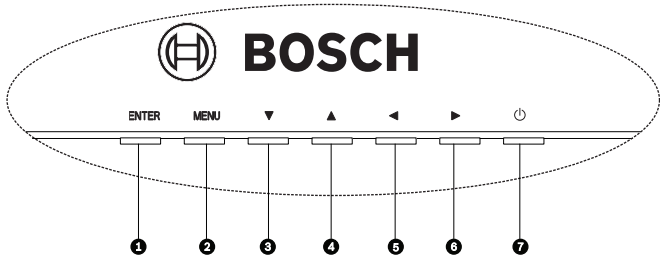

Figure 6.1 UML-262-90 Control Panel Buttons
2. Press the Power button to turn on the unit (see *Figure 6.1*).
4. Press the Menu button to activate the main menu selections (see *Figure 6.1*).